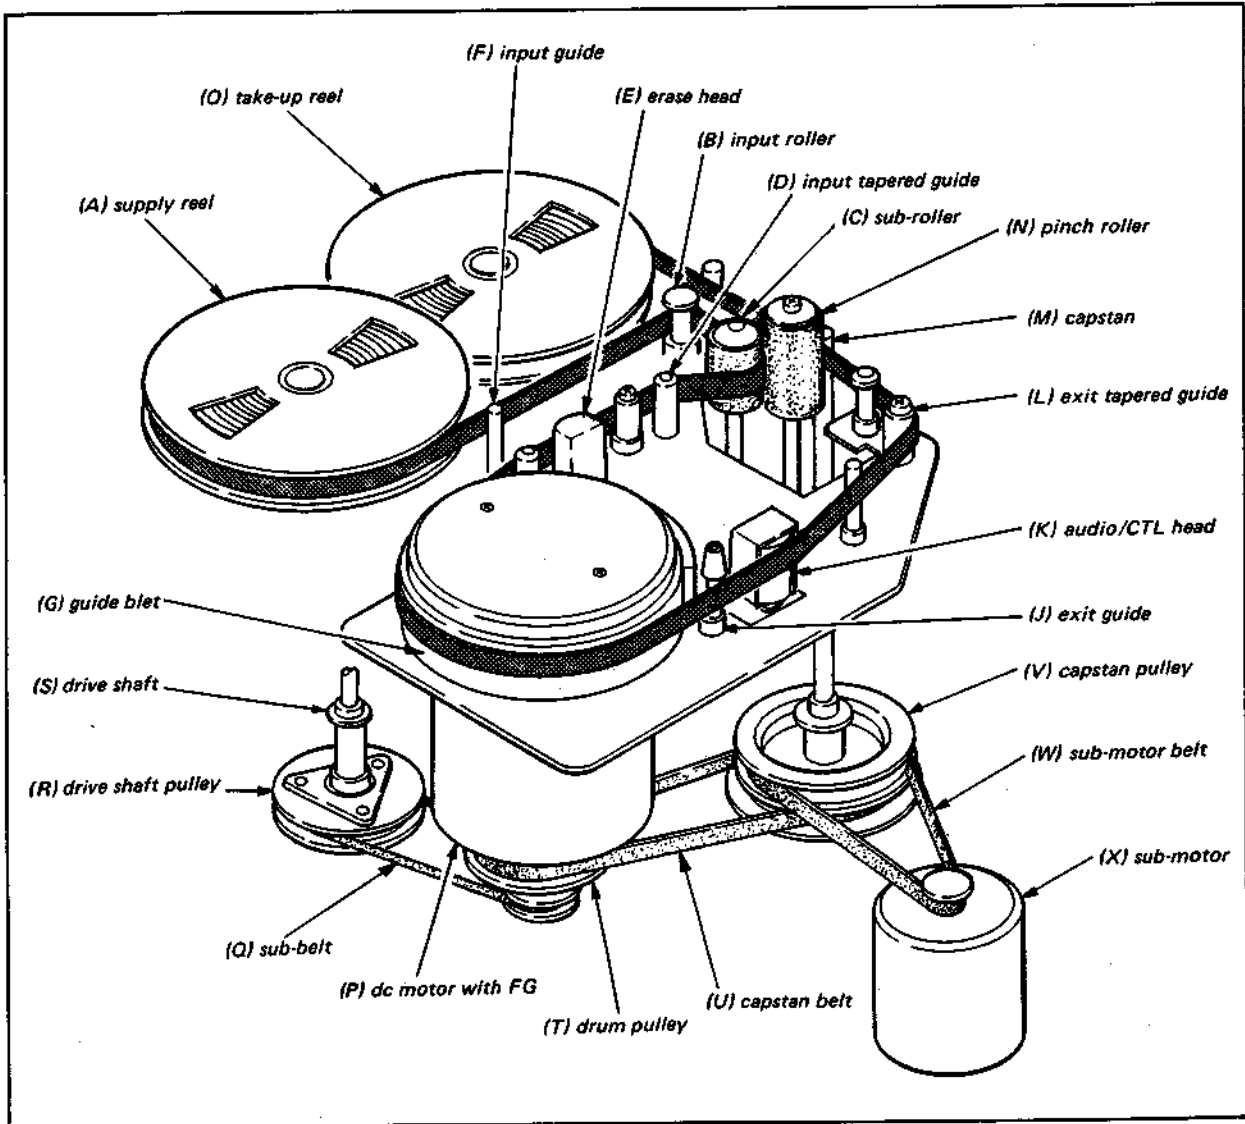

Fig. 9-1 Tape path
The tape path is shown in Fig. 9-1.
The tape, placed on the Supply Reel Table (A), takes a path as shown in Fig. 9-1 and is wound onto the Take-Up Reel Table (O).
Drive is transmitted from the Head Motor to the Take-Up Reel as described below. Refer to Fig. 9-1. The Sub-Belt transfers drive from the Drum Pulley on the Head Motor to a Drive Shaft Pulley on the Drive Shaft. The Take-Up Belt and Take-Up Pulley couple drive torque to the Take-Up Reel.